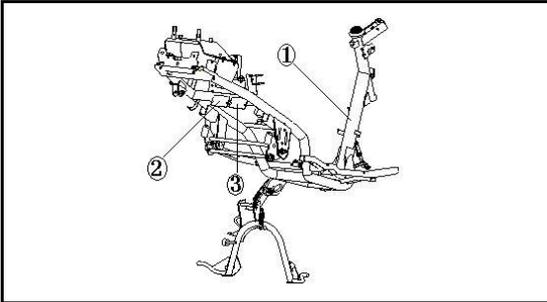

Fig. 1-1
1. The identification number of motorcycle frame is marked at : *LBBTEBAA?????????. The 10th digital and 11th digital respectively indicate year code and factory code. “*” shall be added before and after the frame number. The frame sign is nailed at . See Fig. 1-1.